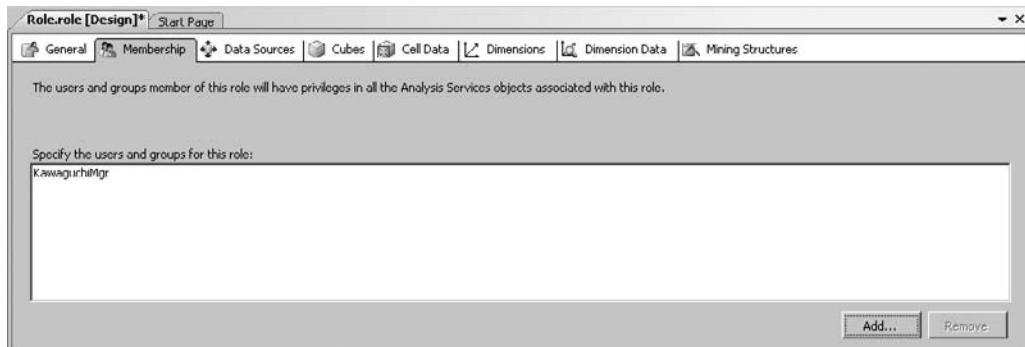

Figure 11-21 The Membership page of the Role Design tab
7. Select the Membership tab. This is the place where the Kawaguchi plant manager's Windows login would be added to this role. If you have a test Windows login that you can use for testing this role, click Add and add the login to the role. Otherwise, move on to Step 8. The Membership page of the Role Design tab is shown in Figure 11-21.